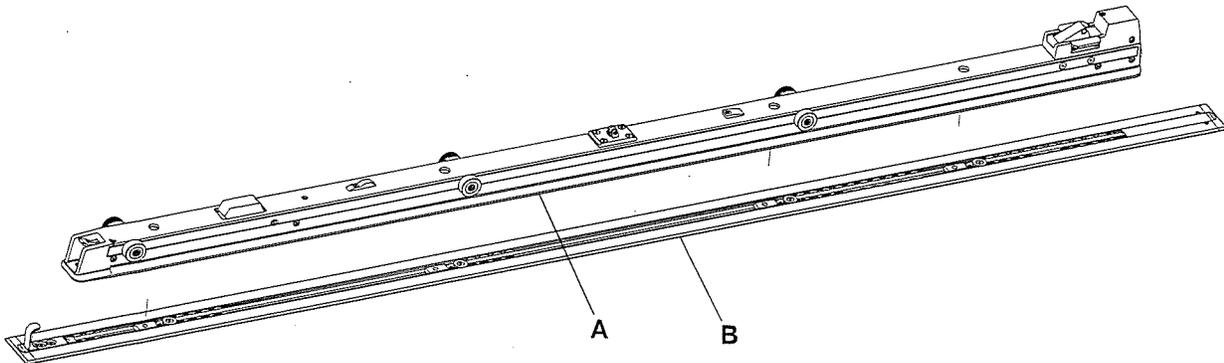

Figure 6: Anchor assembly and floor plate assembly
7. Carefully place the anchor assembly (A) on top of the floor plate assembly (B) (Figure 6 on page 18), and lay the excess wire into the floor plate pocket. Align the four holes with the floor plate attachment brackets.